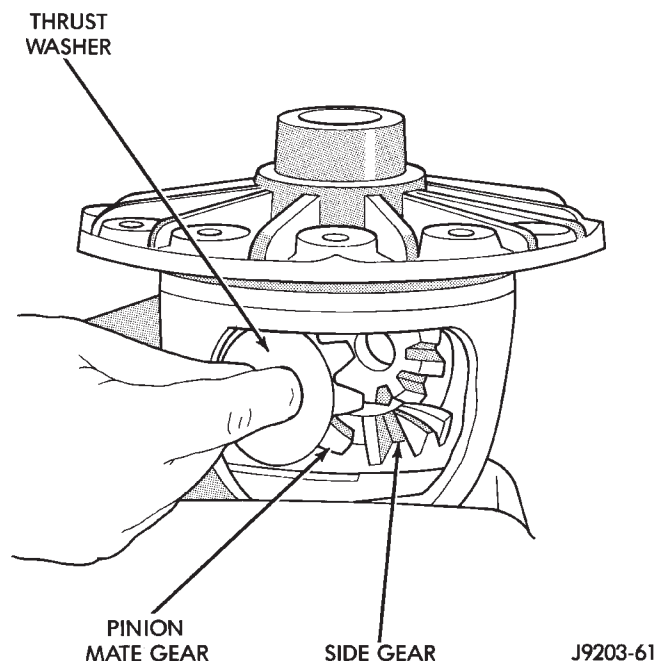

Fig. 36 Pinion Mate Gear Removal
(6) Rotate the differential side gears and remove the pinion mate gears and thrust washers (Fig. 36).
(7) Remove the differential side gears and thrust washers.
(8) Remove the case from the vise.